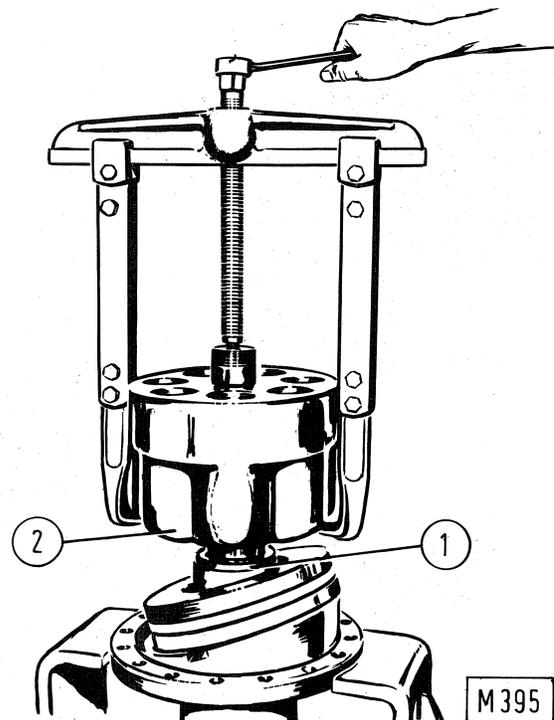

Fig. 2-6 - Removal of cylinder block
- withdraw cylinder block (2, fig. 2-6) using puller and remove spacer (18, fig. 2-1);